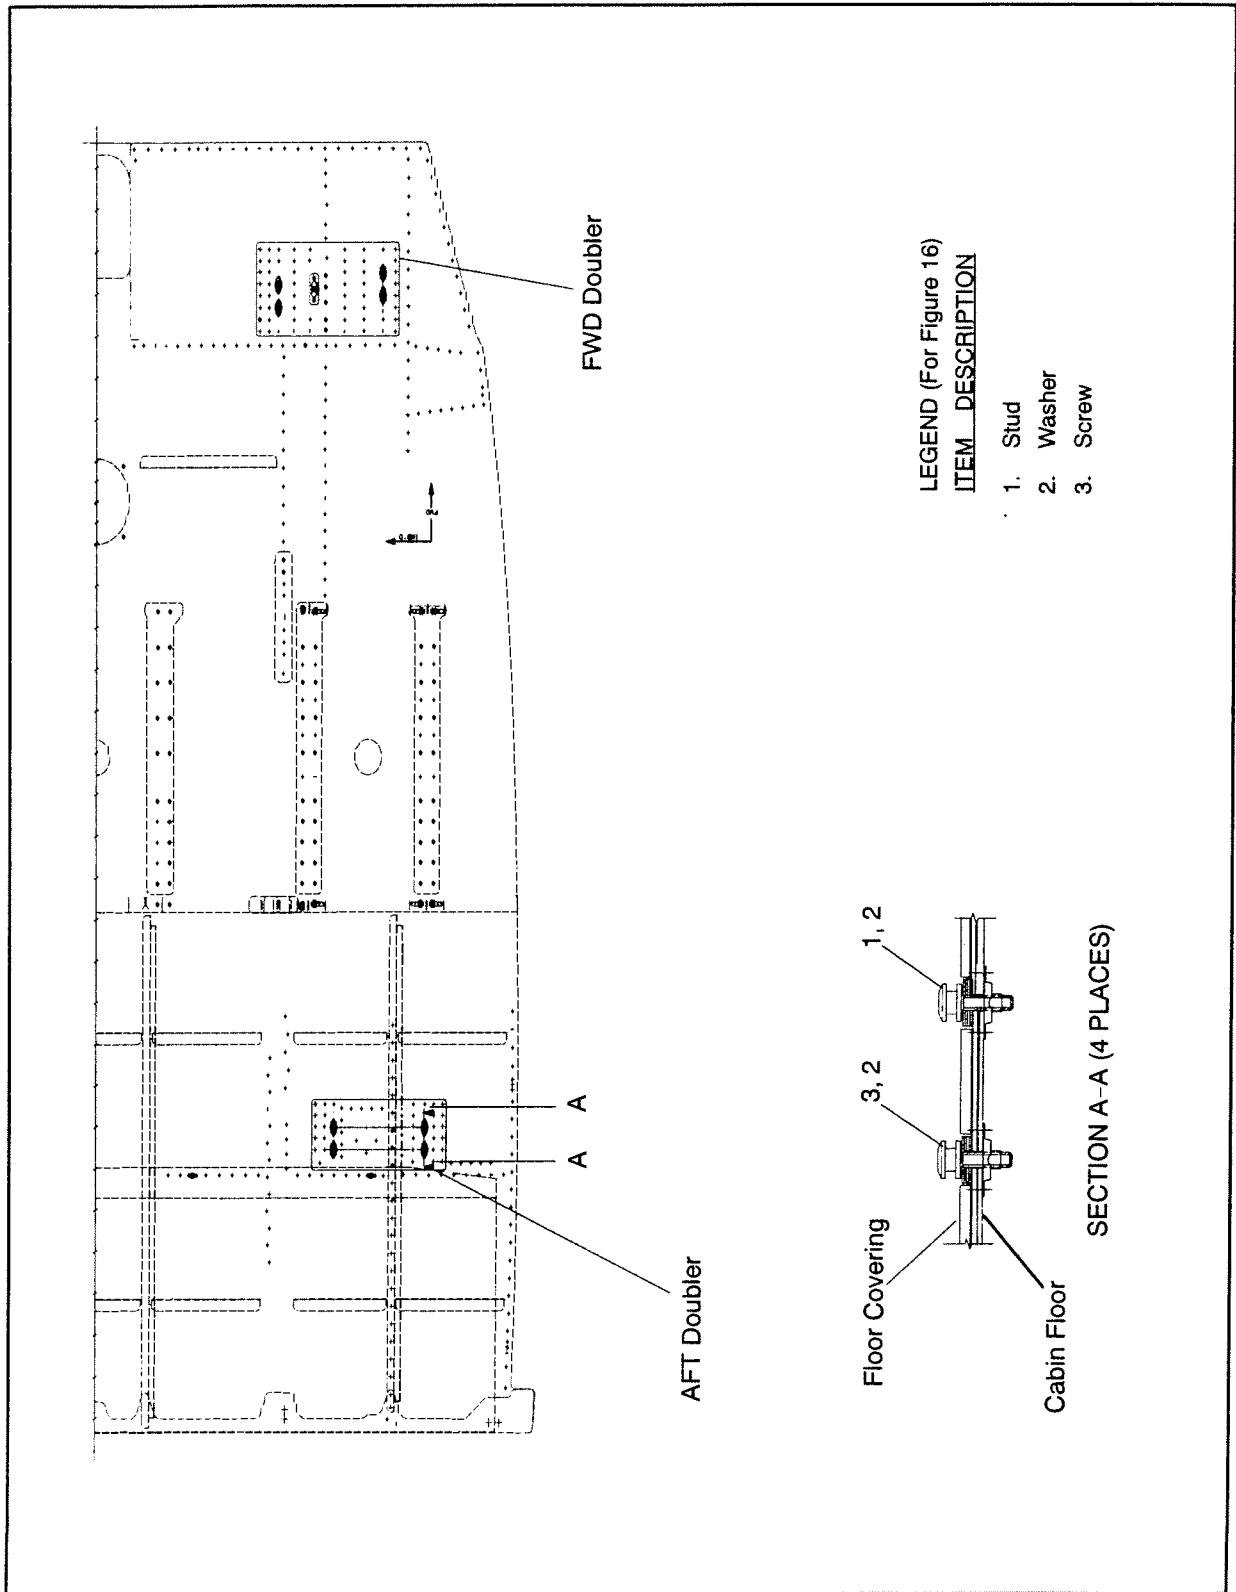

Figure 16 Floor Stud Installation, 8 Place Interior
a. Cabin preparation, refer to Figure 16: